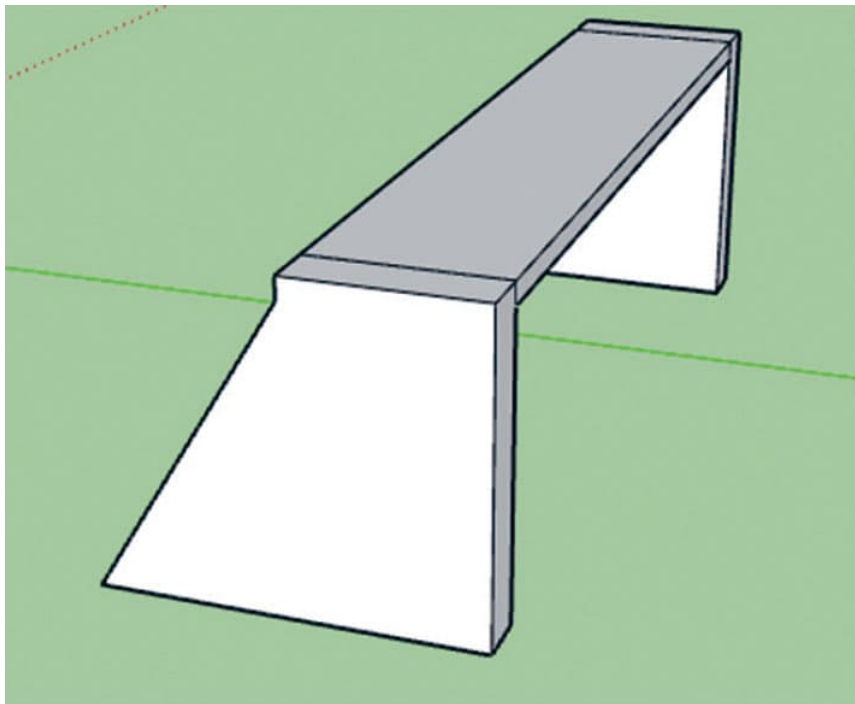

FIG. 4: *Design the wing.*
4. Use the **Rectangle** tool to draw a rectangular wing that connects the top edges of the two brackets. Extrude out the rectangle to about 2 mm thickness (fig. 4).